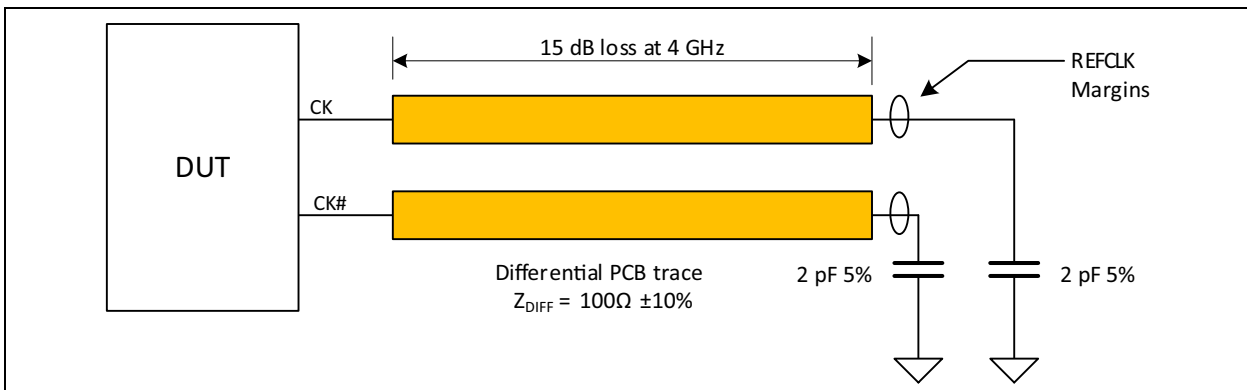

FIGURE 1-7: PCIe Test Load.
- 11:** System board compliance measurements must use the test load card described in Figure 1-7. $OUTx_p$ and $OUTx_n$ are to be measured at the load capacitors C_{LOAD} . Single-ended probes must be used for measurements requiring single-ended measurements. Either single-ended probes with math or differential probe can be used for differential measurements. Test load $C_{LOAD} = 2$ pF.
Note 1: Measured into AC test load as per Figure 1-7.